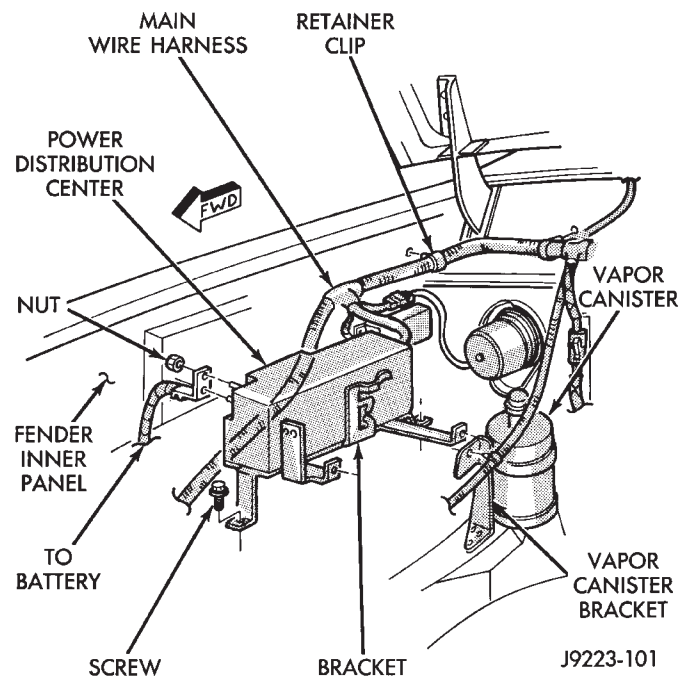

Fig. 42 Power Distribution Center and Vapor Canister
- remove the vapor canister from the fender inner panel (Figs. 42 and 45);